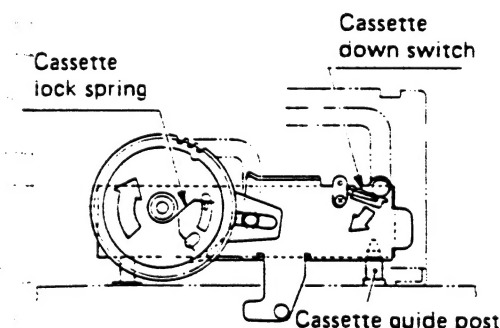

Fig. 3-1-6
5. When the cassette is mounted on the cassette guide posts, the cassette down switch turns on. The slot motor continues to rotate for approx. 160 msec after the above operation and the cassette is pressed by the left and right cassette lock springs and stopped. (Fig. 3-1-6)